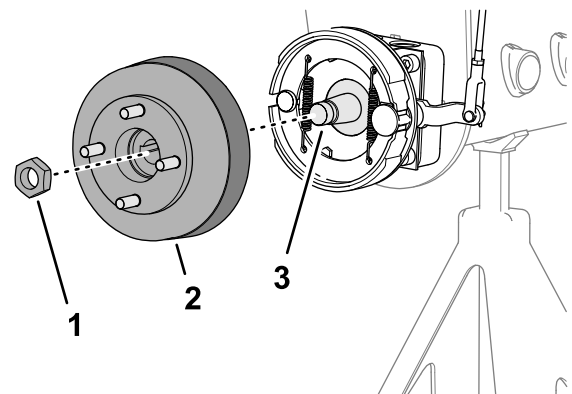
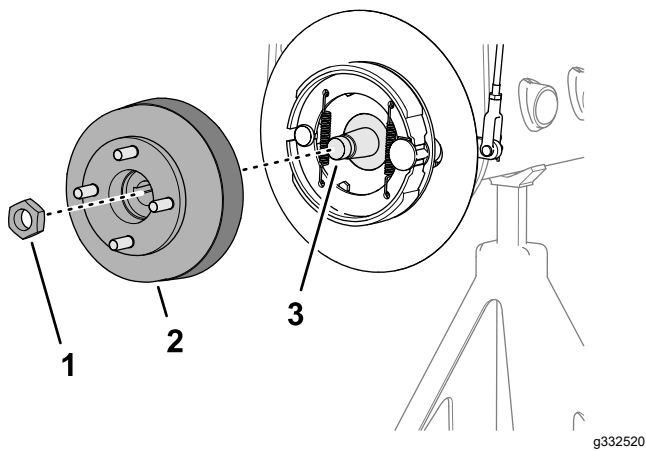

Figure 74
Figure 75
3. Assemble the wheel hub and brake drum onto the wheel-motor shaft (Figure 74 or Figure 75).
4. Secure the wheel hub to the shaft with the locknut (Figure 74 or Figure 75), and tighten by hand.